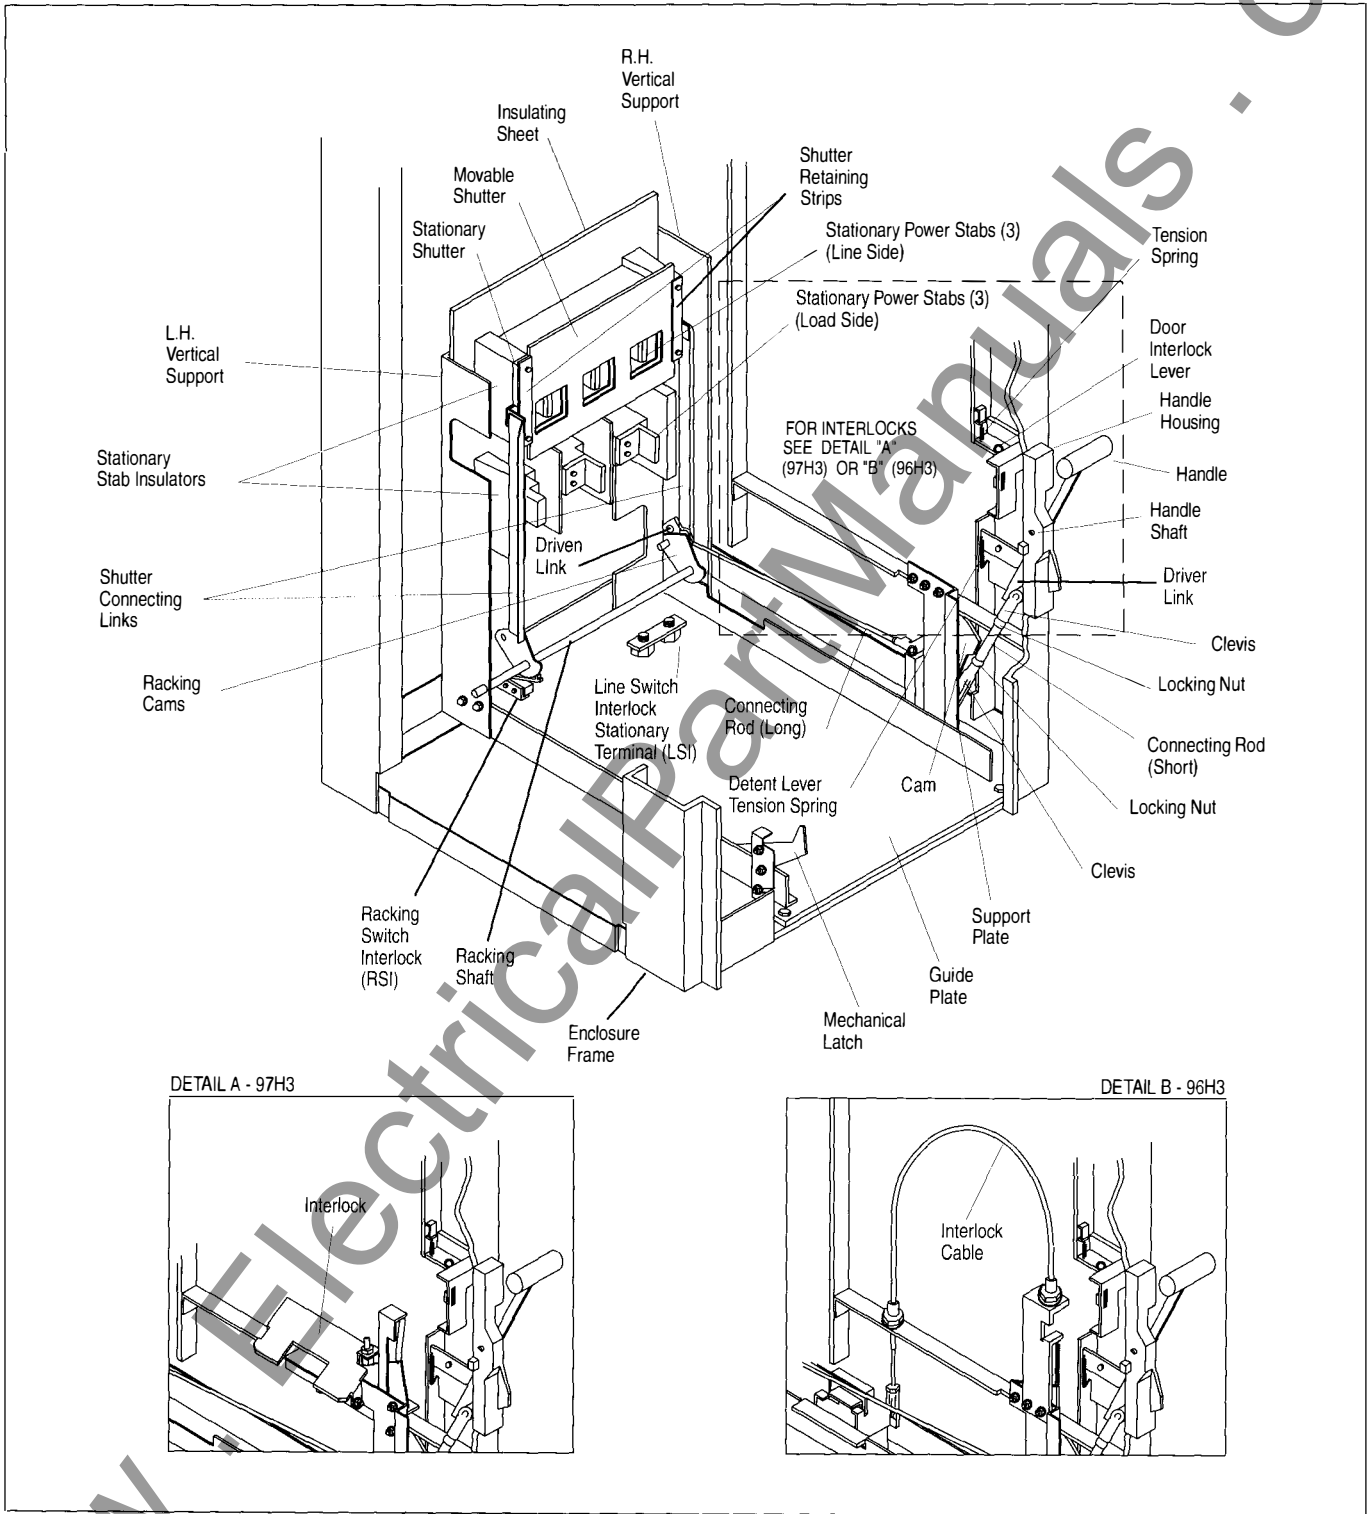

Figure 6. Cell Module
The mechanical latch is mounted on the left hand side of the guide plate and serves to locate and hold the contactor in the disengaged (test) position. The contactor is released by manually pivoting the latch assembly upward and rolling the contactor out of the enclosure. Refer to **Figure 6**.
All control power derived from the secondary of the control power transformer is carried from the contactor to the low voltage control panel through a set of contact fingers mounted on the rear of the contactor. Refer to **Figure 6**.
The Racking Switch Interlock (RSI) is a microswitch mounted on the guide plate which functions to prevent operation of the contactor on the test power when it is in the engaged (ON) position. As the racking handle is moved from OFF to ON the normally closed RSI contact opens and isolates the test source from the control circuit. Refer to **Figure 6**.